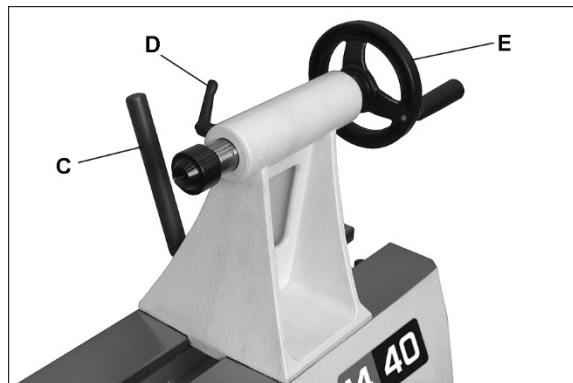

Figure 10
To slide tailstock, push locking handle (C, Figure 10) down toward the bed. Push locking handle upright to lock tailstock in position.
⚠ WARNING Make sure tailstock is locked to bed (C, Figure 10) and quill is tightened (E) before turning a spindle on the lathe.